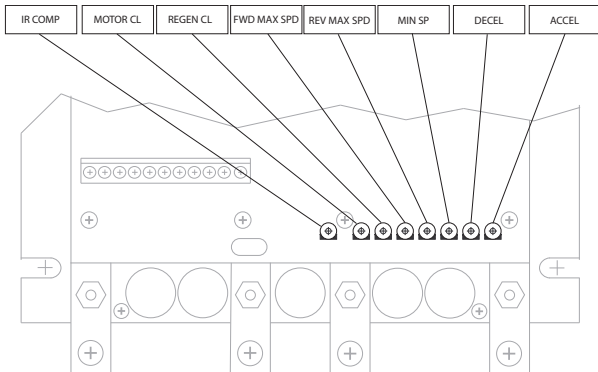

Figure 11. Calibration Trimpot Layout
All adjustments increase with clockwise rotation (CW), and decrease with counter-clockwise rotation (CCW). Use a nonmetallic screwdriver for calibration. Each trimpot is identified on the printed circuit board (see Figure 11).